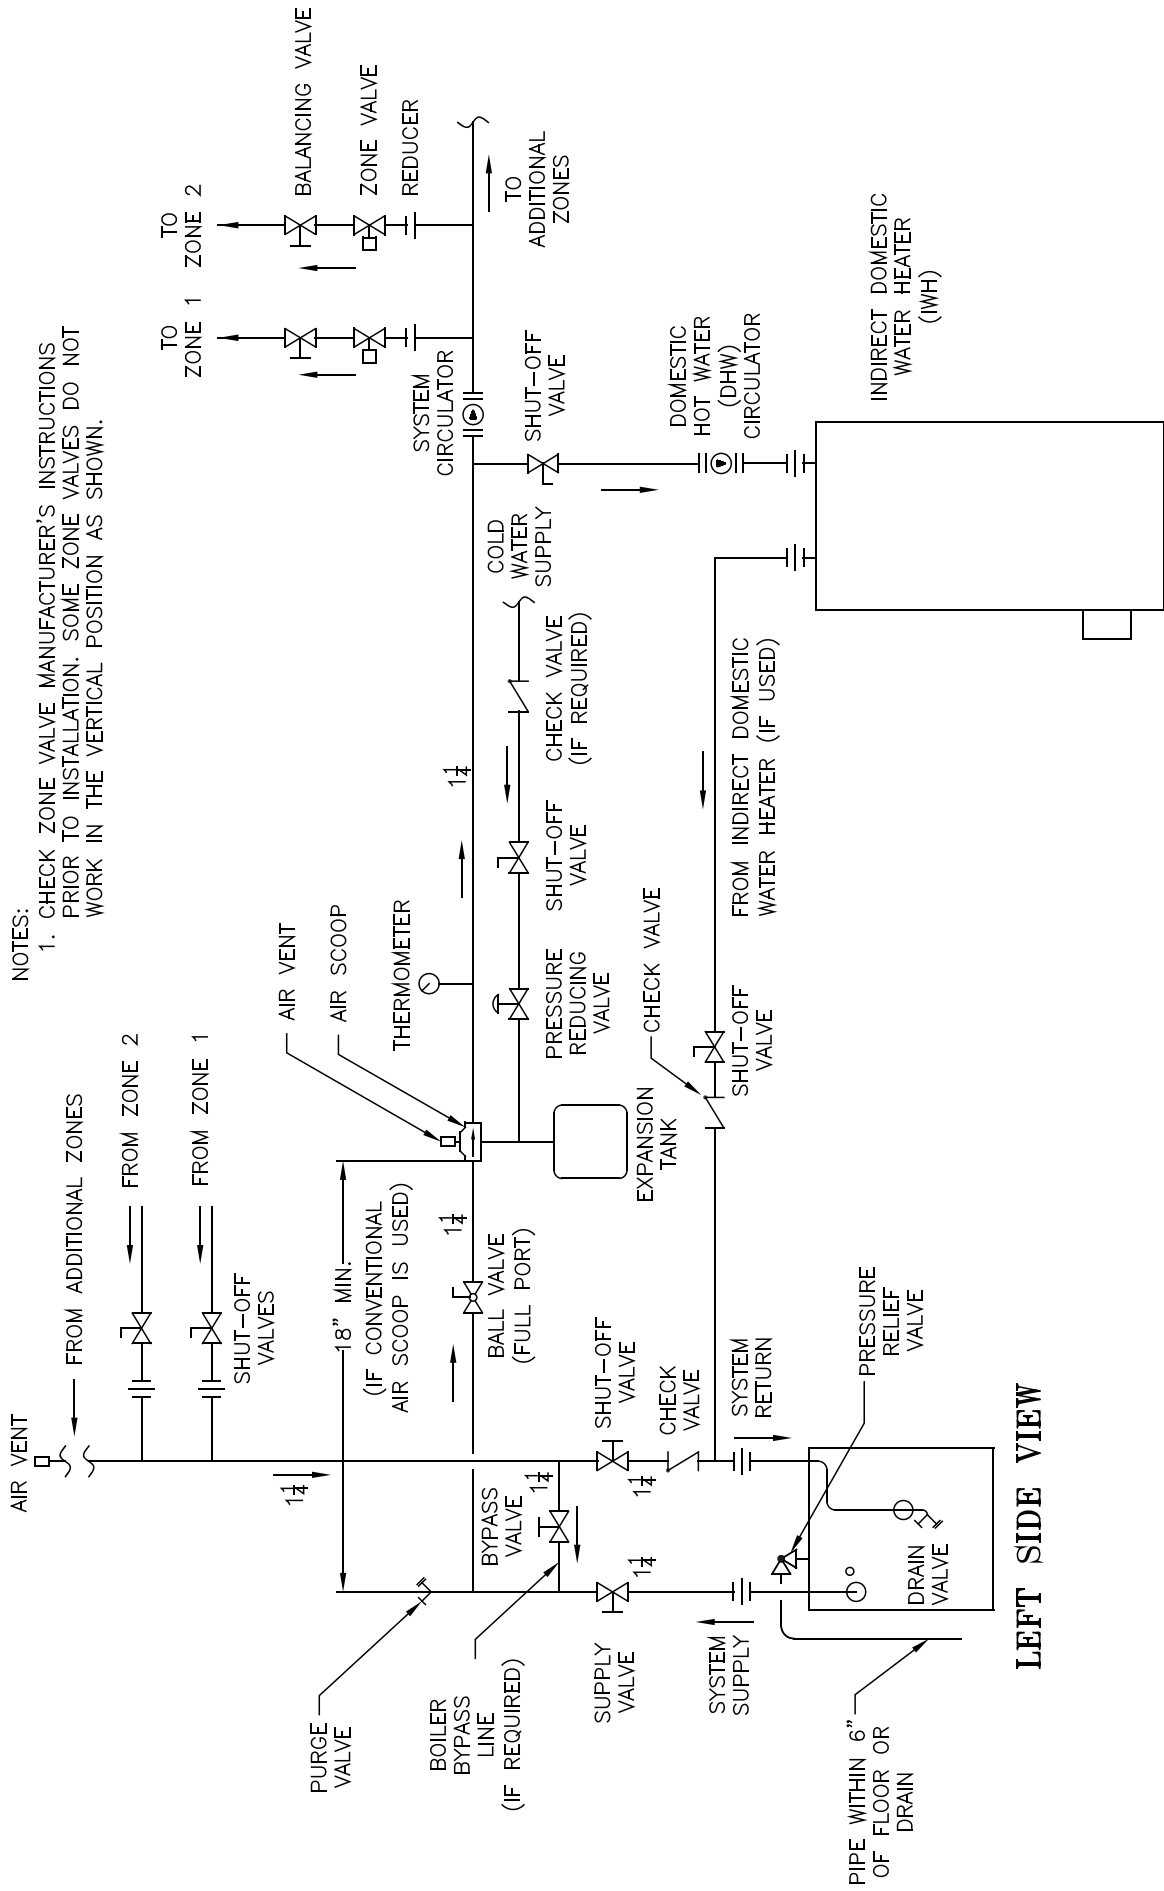

Figure 3: Recommended Water Piping for Zone Valve Zoned Heating Systems
- D. **Connect system supply and return piping** to boiler. Refer to Figure 3. Also consult Residential Hydronic Heating Installation and Design I=B=R Guide. Maintain minimum ½ inch clearance from hot water piping to combustible materials.
Remove circulator and install pipe tee between circulator and boiler return along with second tee in supply piping as shown in Figure 3. Bypass should be same size as the supply and return lines with valves located in bypass and supply outlet as illustrated in Figure 3 in order to regulate water flow to maintain higher boiler water temperatures.